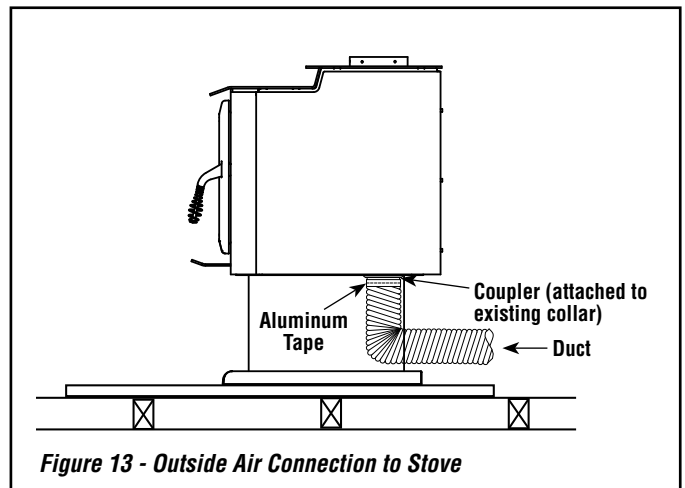

Figure 13 - Outside Air Connection to Stove
Through the Wall Outside Air Kit Installation (refer to Figures 13, 14 and 15)
- Attach the duct to the coupler on stove (*see Figure 13*). Using the aluminum tape provided, wrap the tape around the joint between the flexible duct and the air inlet.